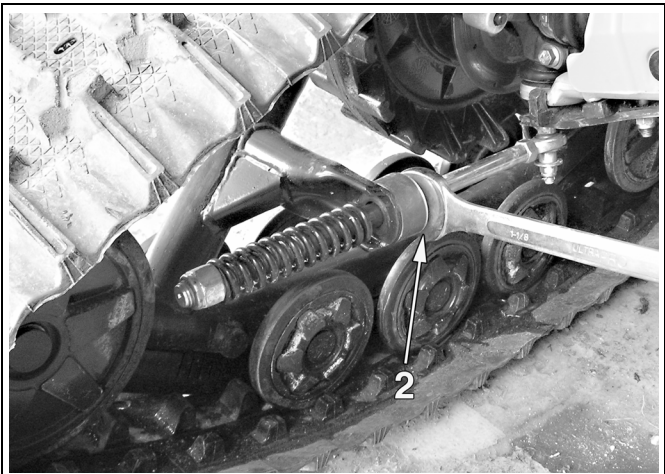

Figure 5
- Set the nut (2) shown on Figure 5 until the flat bar reaches  $10 \pm 1/4$  inches ( $254 \pm 6$  mm) above the ground.